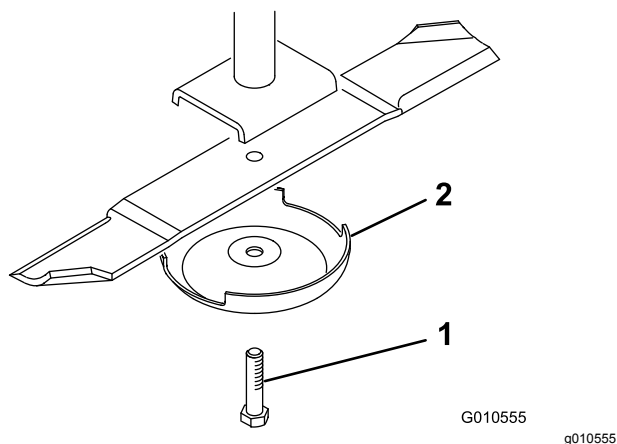

Figure 30
- Grasp the end of the blade using a rag or thickly padded glove. Remove the blade bolt, anti-scalp cup, and blade from the spindle shaft (Figure 30).